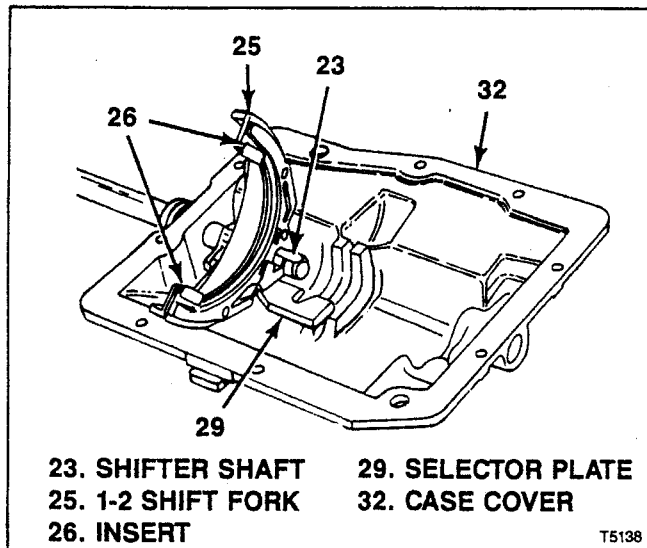

Figure 7-16. Installing T5 NWC 1-2 Shift Fork
- a. Install o-ring (30) on case cover (32).
- b. Install inserts (26) on shift forks (24 and 25).
- c. Install selector plates (29) in shift forks (24 and 25).
- d. Start shifter shaft (23) into rear of case cover (32) until end of shaft is flush with inside of case cover.
- e. Position 1-2 shift fork (25) (with inserts and selector plate) in case cover (32) and push shifter shaft (23) just through fork. Notch in selector plate should align with semi-circular groove in cover (see figure 7-16).